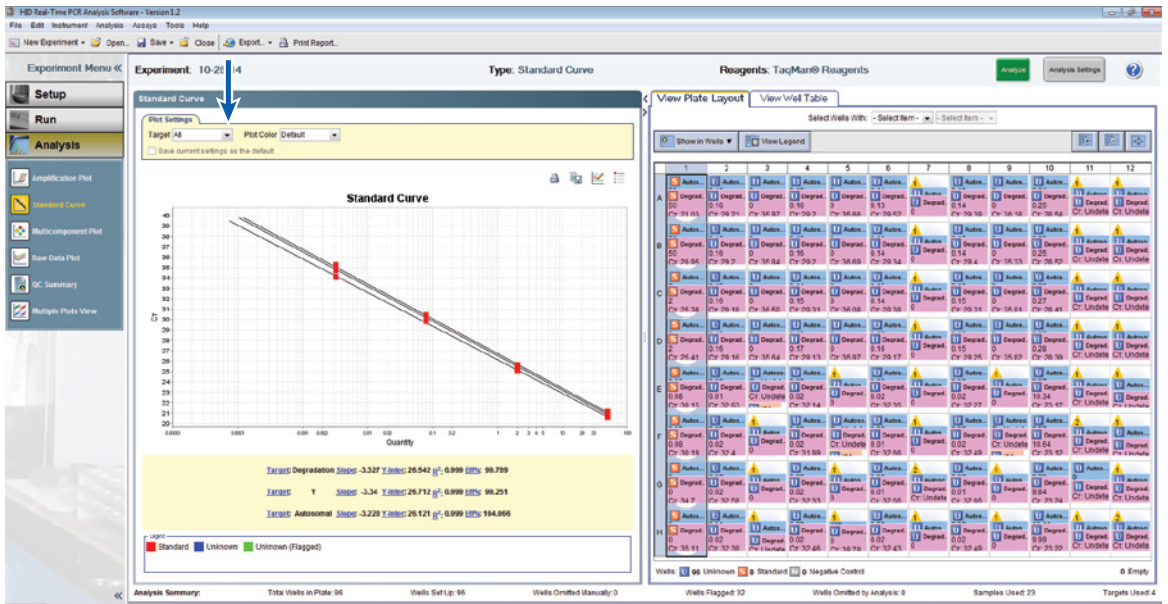

Figure 30. Displaying standard curves for all targets.
3. To display standard curves, select **Standard Curve** from the Analysis menu in the left side panel. Display the standard curves for all targets by selecting "All" from the 'Target' drop-down menu (Figure 30). The standard curve parameters are located below the standard curve plot.